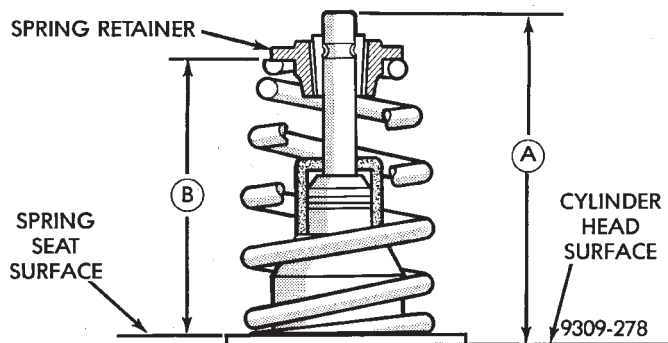
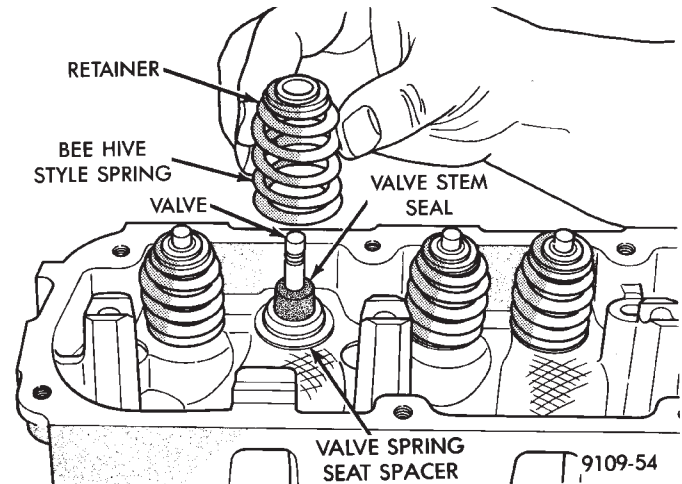

Fig. 41 Checking Valve Installed Height
Fig. 42 Valve Seal and Spring—Installation
(1) Coat valve stems with clean engine oil and insert them in cylinder head.
(2) Check valve tip to spring seat dimensions A after grinding the valve seats or faces. Grind valve tip to give 49.541 to 51.271 mm (1.950 to 2.018 in.) over spring seat when installed in the head (Fig. 41). Check valve tip for scoring, if necessary, the tip chamfer should be reground to prevent seal damage when the valve is installed.
(3) Install valve spring seat spacer on head (Fig. 42).
(4) Install new cup seals on all valve stems and over valve guides (Fig. 41). Install valve springs and valve retainers (Fig. 42).